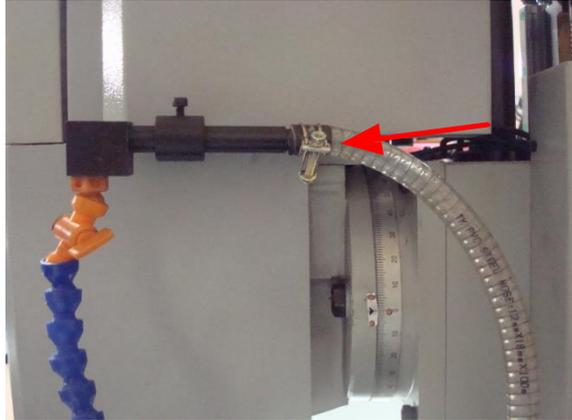

Figure 3-93
- 1) Using the 1/2" thick Coolant Feed Hose and the Small Hose Connector attach the hose to the coolant system at the head of the machine (Figure 3-93).